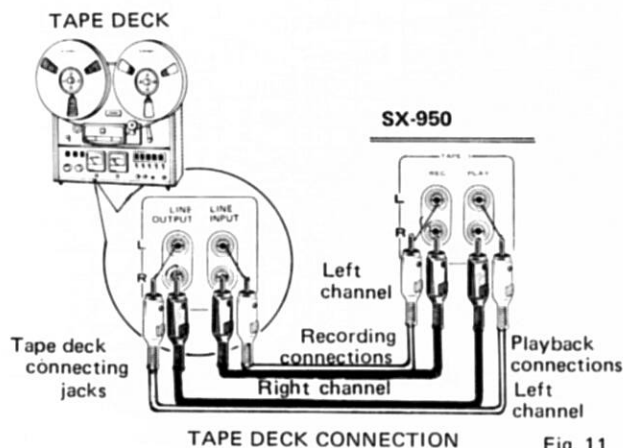
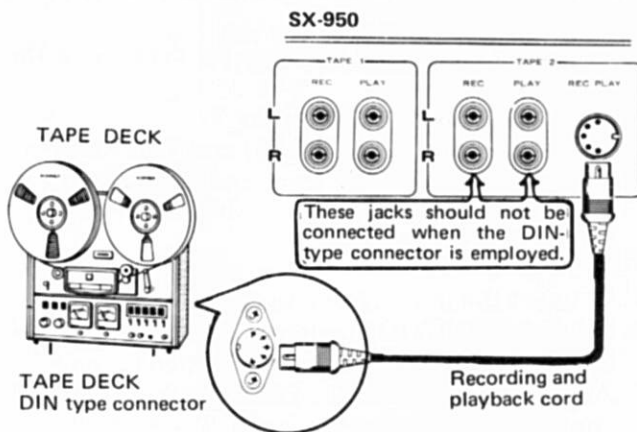

Fig. 11
Fig. 12
Use the connecting cord(s) provided with the tape deck(s) to make the connections (see Fig. 11).
- The receiver output TAPE 1 REC jacks are connected to the recording input jacks (LINE INPUT) of the tape deck as shown in Fig. 11. The upper jack of each pair is the L (left) channel and the lower is the R (right) channel. When the tape deck is provided with a DIN-type connector for recording and playback, use an optional recording/playback cord (Fig. 12).